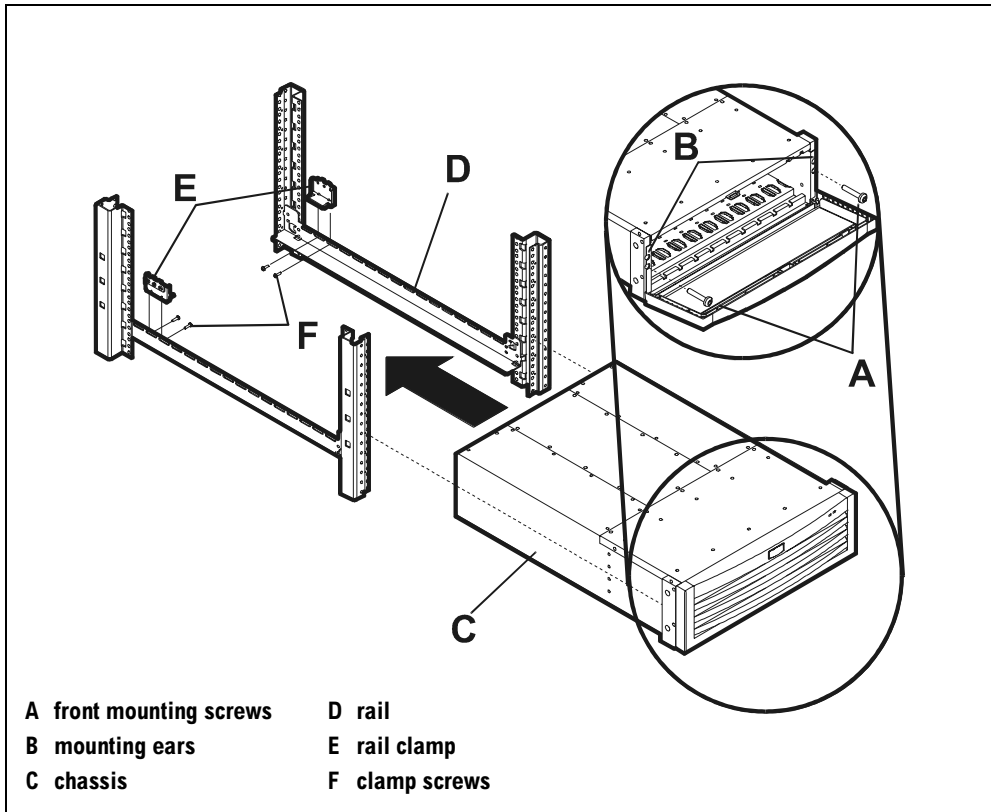

Figure 23 Mounting the Disk System
2. With another person or using a lift device, lift the disk system and slide it, back-end first, into the front of the rack and onto the previously installed rails (Figure 23). Push the disk system as far into the rack as it will go.
4. Verify that one hole in each mounting ear (B in Figure 23) aligns with the sheet metal nuts previously installed on the rack front columns. Depending on the rail position, the lower or upper set of holes will align with the rack front holes.
5. Insert two screws (A in Figure 23) through the matching holes in the disk system mounting ears and rack front columns. Tighten screws.
- a. Set the clamp (E in Figure 23) inside the rail with the holes in the clamp along the slots in the rail.
- c. Insert and tighten two M5 16mm screws (F in Figure 23) through each clamp and rail.